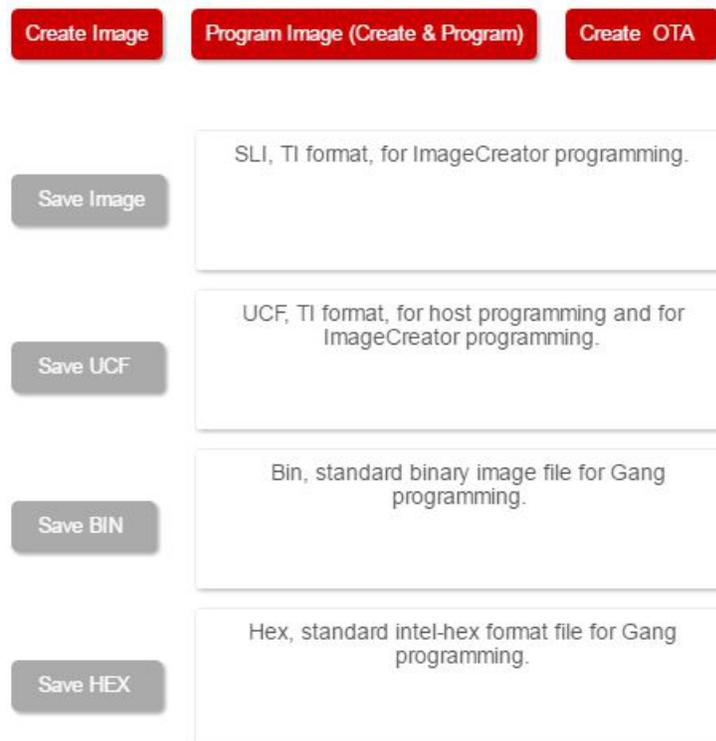

Figure 2-18. Generate Image
- Click on Program Image (Create & Program), as shown in Figure 2-18. This step might take a minute.